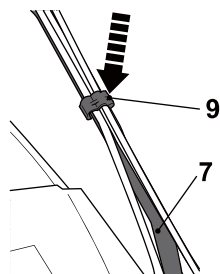

Fig. 6
8. Fix the wires (5, 6) with the wire clip (9) to the lower handle bar (7) (Fig. 6).